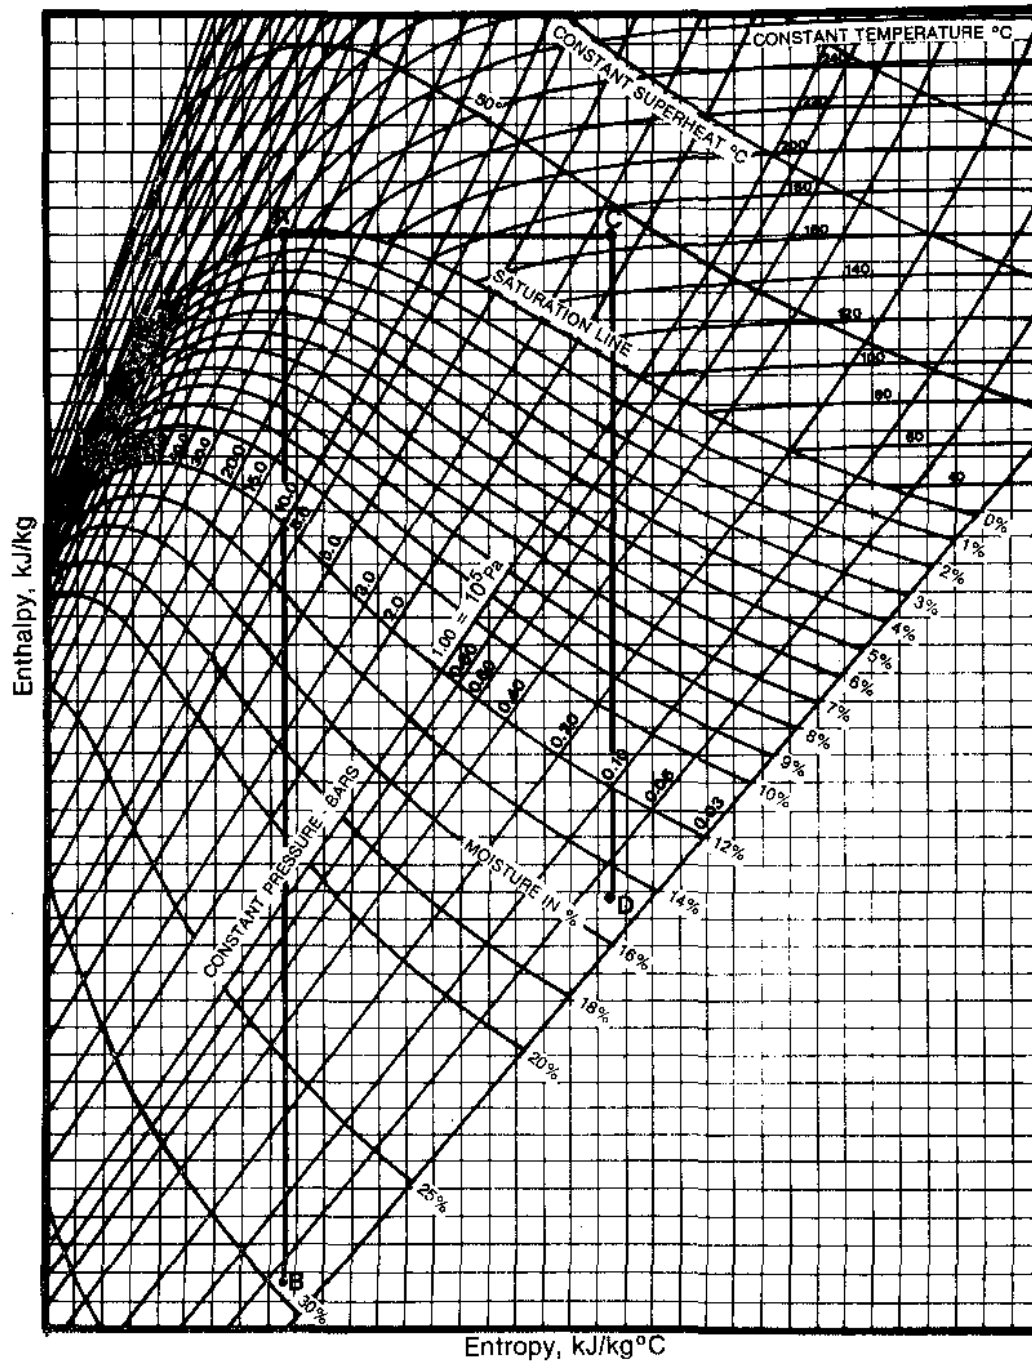

Figure 6.20
6.7 Your answer should look like Figure 6.20